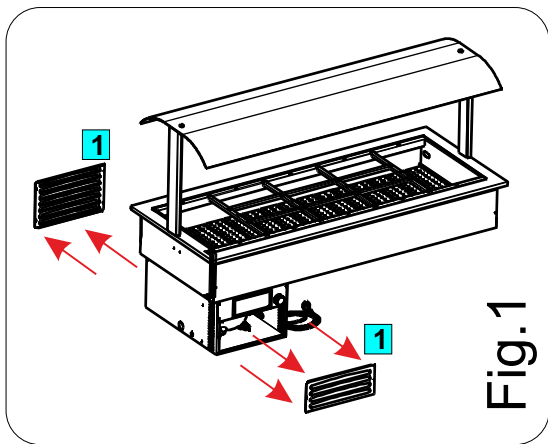

Fig.1
- 1- TOGLIERE LE RETINE DI PROTEZIONE DEL VANO MOTORE (FIG. 1) (INSTALLATE PER NORMATIVA CE).
- 1 REMOVE THE PROTECTION GRIDS OF THE COMPRESSOR COMPARTMENT (FIG 1) - INSTALLED IN COMPLIANCE WITH CE REGULATIONS.
- 1- ENTFERNEN SIE DIE LUEFTUNGSGITTER DES MOTORRAUMS (FIG 1) – IN ÜBEREINSTIMMUNG MIT DEN CE-VORSCHRIFTEN INSTALLIERT.